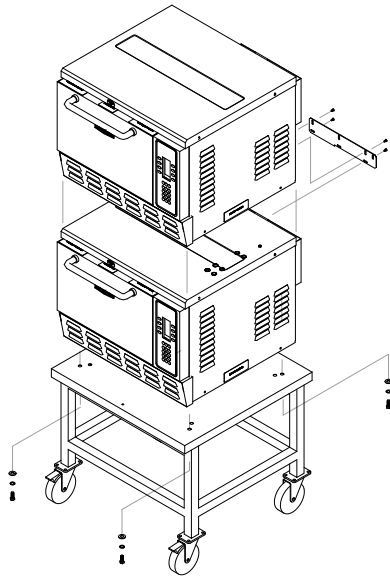

FIGURE 3: Oven Secured to Cart
Securing Oven to Cart (Figure 3)
6. Install bolts with washers by running them up through the cart surface and into the holes in the oven (where the legs were). See Figure 3.